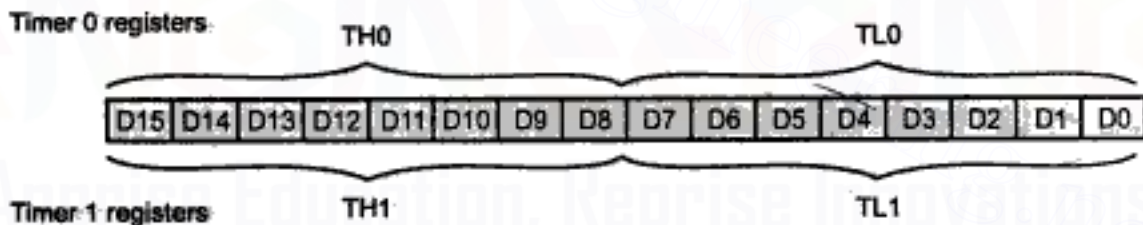

Fig. 9.1: Timer 0 and Timer 1 registers
8051 has two timers, timer 0 and timer 1. Basically both, timer 0 and timer 1 are 16-bit registers. Since 8051 is an 8-bit microcontroller, each 16-bit register can be accessed as low-byte register (TL) and high-byte register (TH). Fig. 9.1 shows the timer 0 and timer 1 registers. These registers can be accessed like other registers (A, B, R0, R1 etc.) in 8051.